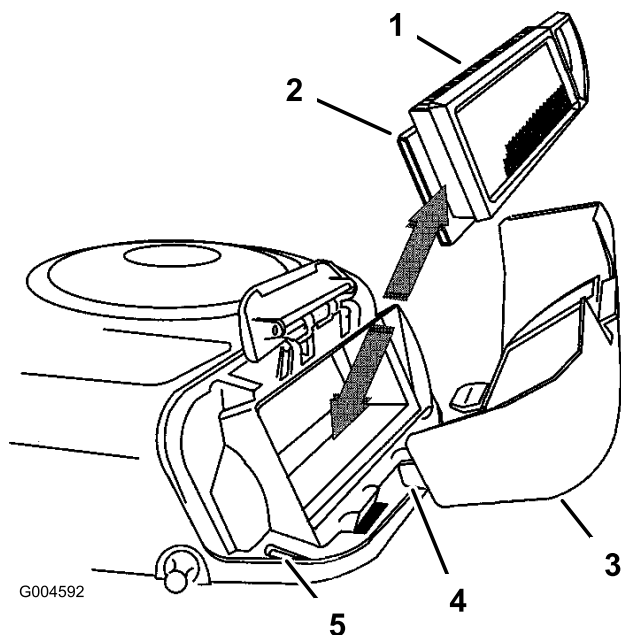

Figure 24
5. Carefully slide the paper element and foam element from the blower housing (Figure 24).
3. Hook the handle onto the cover and press down on the handle to lock the cover in place (Figure 24).